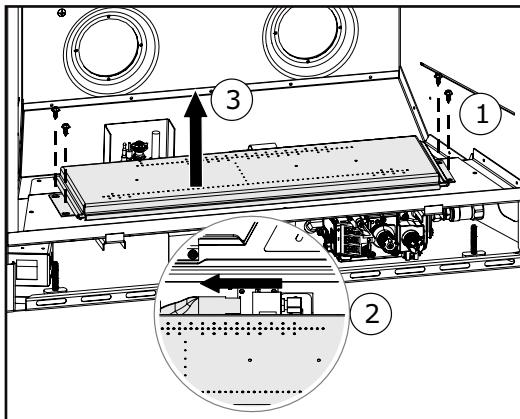

Fig. 2
- 4. Remove the 4 screws holding the burner in place, slide the burner to the left to remove the orifice (**Fig. 2**).